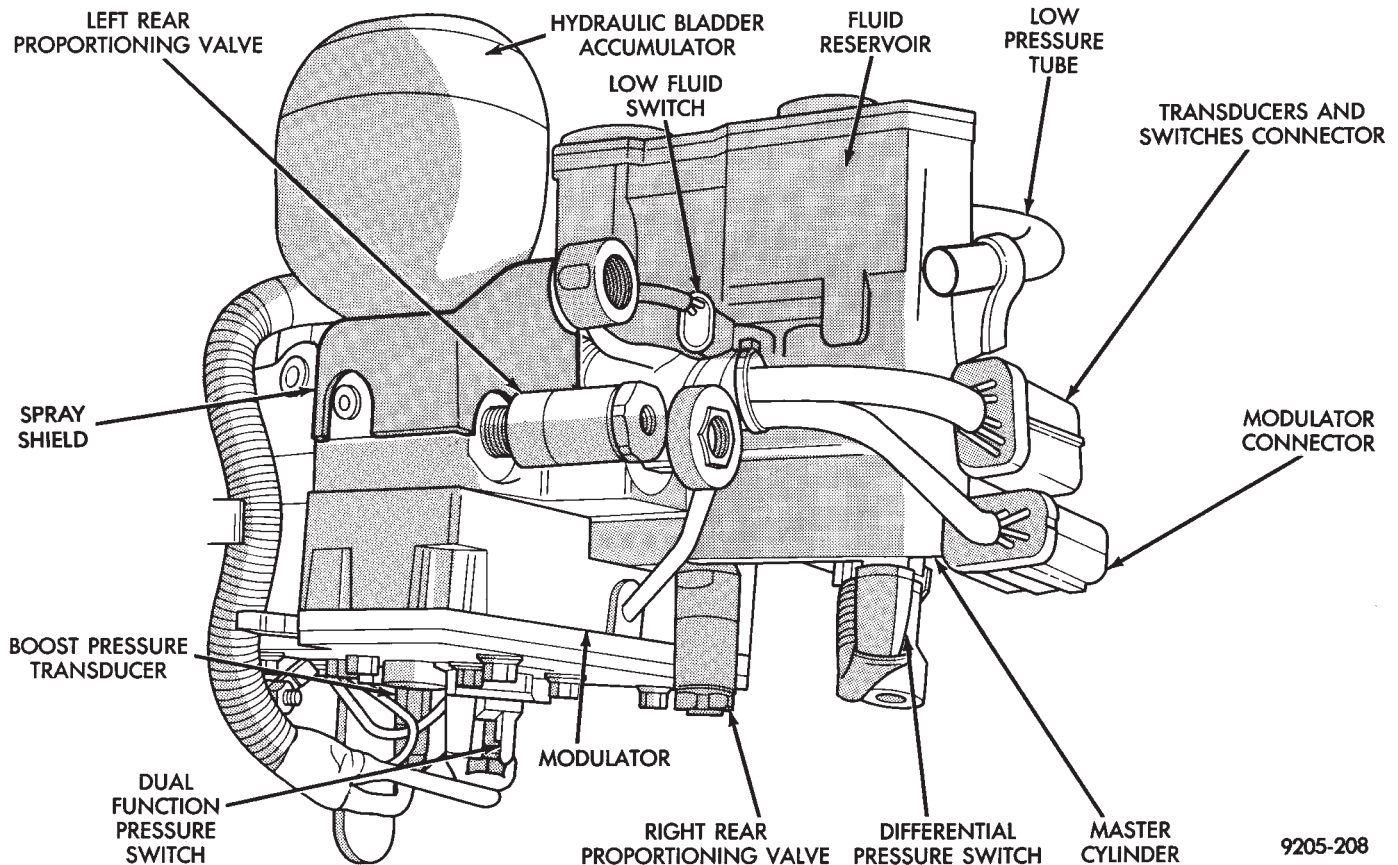

Fig. 18 Hydraulic Assembly
- (4) Remove brake tube from the proportioning valve that requires servicing.
- (5) Remove proportioning valve requiring service from the hydraulic assembly (Fig. 18).